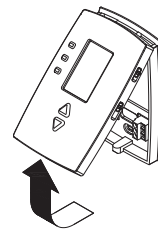

Figure 1
- 2 Separate the thermostat from the wallplate as per Figure 1.